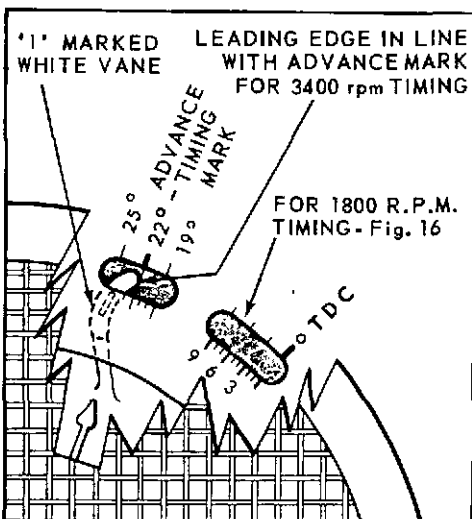

Fig. 15, SPARK ADVANCE VARIABLE HIGH SPEED
1. **For timing variable high speed engines to 22° at 3400 r.p.m.**, refer to Fig. 15 which illustrates 25°, 22°, 19° and T.D.C. timing marks. A **cast arrow** identifies the **"I" marked flywheel vane** that is visible through the opening at the 22° mark.
2. With reference to Fig. 15 and the engine operating at **3400 r.p.m.**, allow the flash from the timing light to illuminate the **"I" whitened flywheel vane**. At the time of the flash the **leading edge** of the vane should line up with the **22° Timing Mark** on the flywheel shroud.